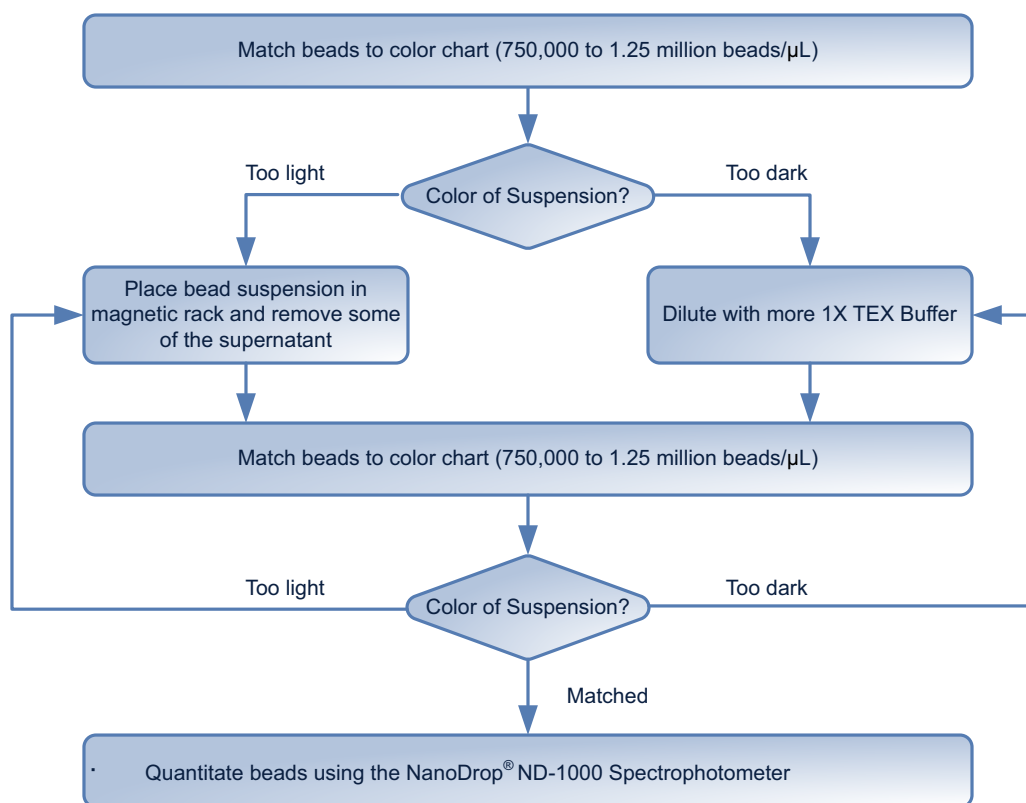

Figure 22 The SOLiD™ Bead Concentration Chart workflow.
4. Adjust the volume of beads so that the color of the bead solution matches a color in the optimal range (750,000 beads/µL to 1.25 million beads/µL). See Figure 22 on page 43 for the workflow.